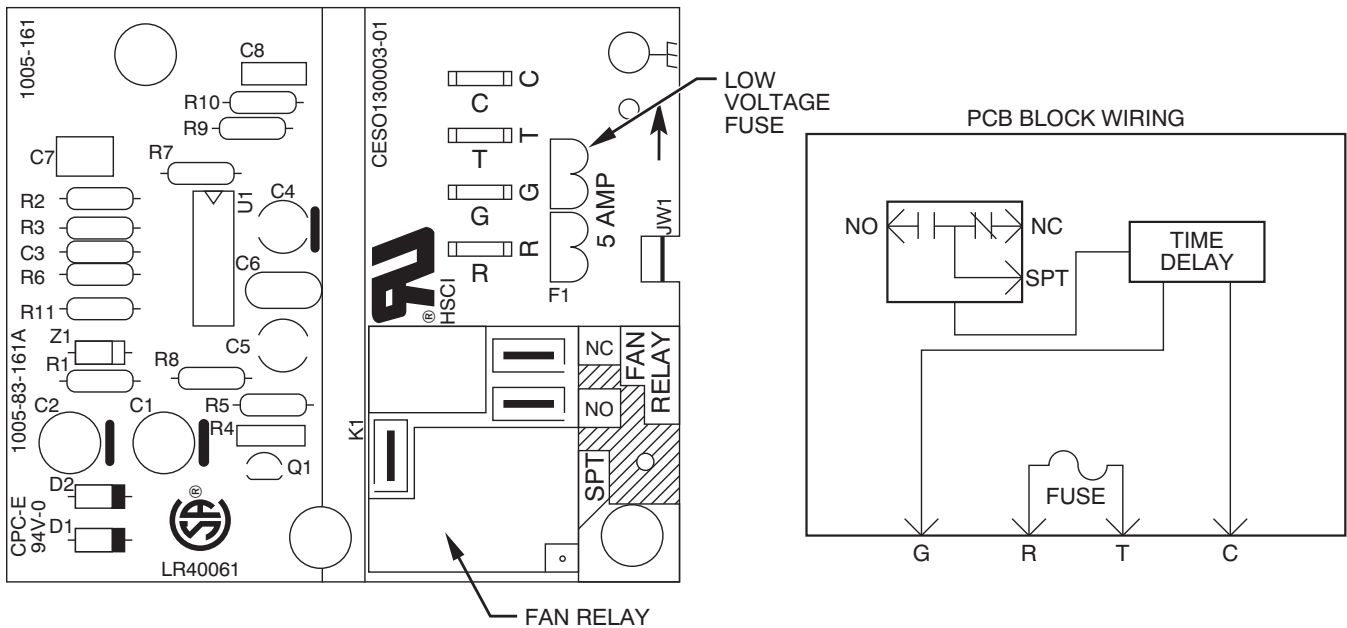

Fig. 1 – Fan Coil Printed Circuit Board (CESO13003-00, 01 / HK61EA002)
Layout of the actual PCB is depicted in Fig. 1 and Fig. 2.
Use wiring schematics shown in Fig. 1, and Fig. 2 as a guide in troubleshooting PCB unless otherwise noted.
2. Check output voltage of transformer secondary side R (red) and C (brown). Be sure transformer output is between 18Vac and 30Vac. If transformer output is incorrect and transformer is receiving correct input voltage (208V or 230V), then transformer needs to be replaced with recommended transformer. If no problem exists with transformer secondary, proceed to items 3 and 4.
3. Check low-voltage fuse shown in Fig. 1 or Fig. 2. If fuse is blown, replace it with an identical 5-amp fuse. The transformer cannot supply power to board with fuse blown or loose. If fuse blows when unit has power applied to it, the system most likely has one of the following problems:
1. Check wiring of sequencers/relays as shown in Fig. 1 and Fig. 2. Be sure transformer is not shorting out because thermostat wires are miswired.
2. Check wiring of relays as shown in Fig. 1 And Fig. 2. Be sure low-voltage and high-voltage wiring is correct.